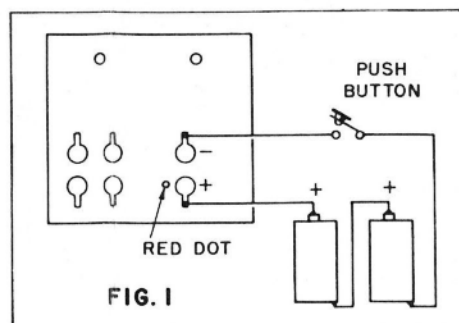

FIG. 1
**HOW THE ARISTO-MATIC ACTUATOR WORKS:** Before installing the unit in your model it is advisable to connect it up with a push-button and two flashlight cells (as in Fig. 1) so that you may study its action. The positive battery lead (small brass cap on flashlight cells) should always go to the solder lug marked with a red dot.